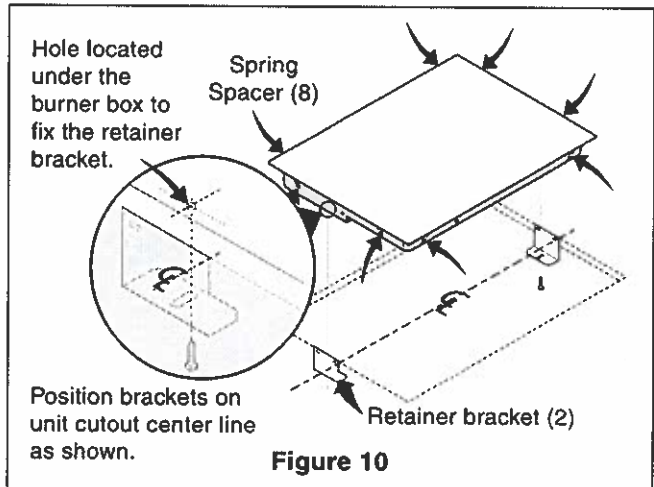

Figure 10
**⚠ WARNING** Do not remove the spring spacers on the edges of the cooktop. These spacers center the cooktop in the space provided. The cooktop must be centered to prevent excess heat buildup that may result in heat damage or fire (see Figure 10).
4. Fix the cooktop to the bracket using the screws supplied (see Figure 10).